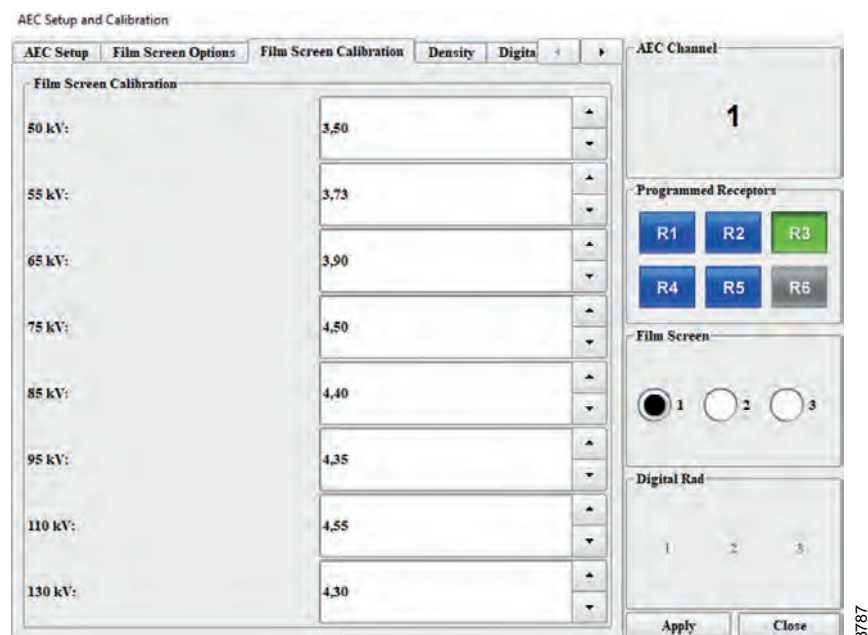

Fig. 4-178 AEC setup and calibration
- Set the value in the 75 KV dialog box to 4,50, see Fig. 4-178 *AEC setup and calibration*(see figure 5 below) for the relevant AEC channel and filmscreen
1. Repeat the *Determination of AEC cut off EI* procedure, with the KV levels (except 75 KV) shown in Fig. 4-178 AEC setup and calibration, using the phantom sizes in the table: